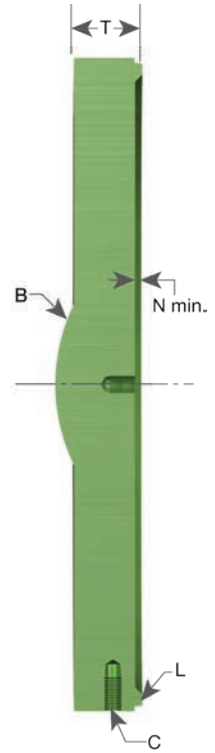

Figure 18: Metal and Soft Seat Disc Inspection Areas
7. Standard Metal Seated Disc: This disc (Figure 18) can be machined until the T dimension is reduced to the minimum, as listed in Table 5. The N min. dimension must be maintained as well.